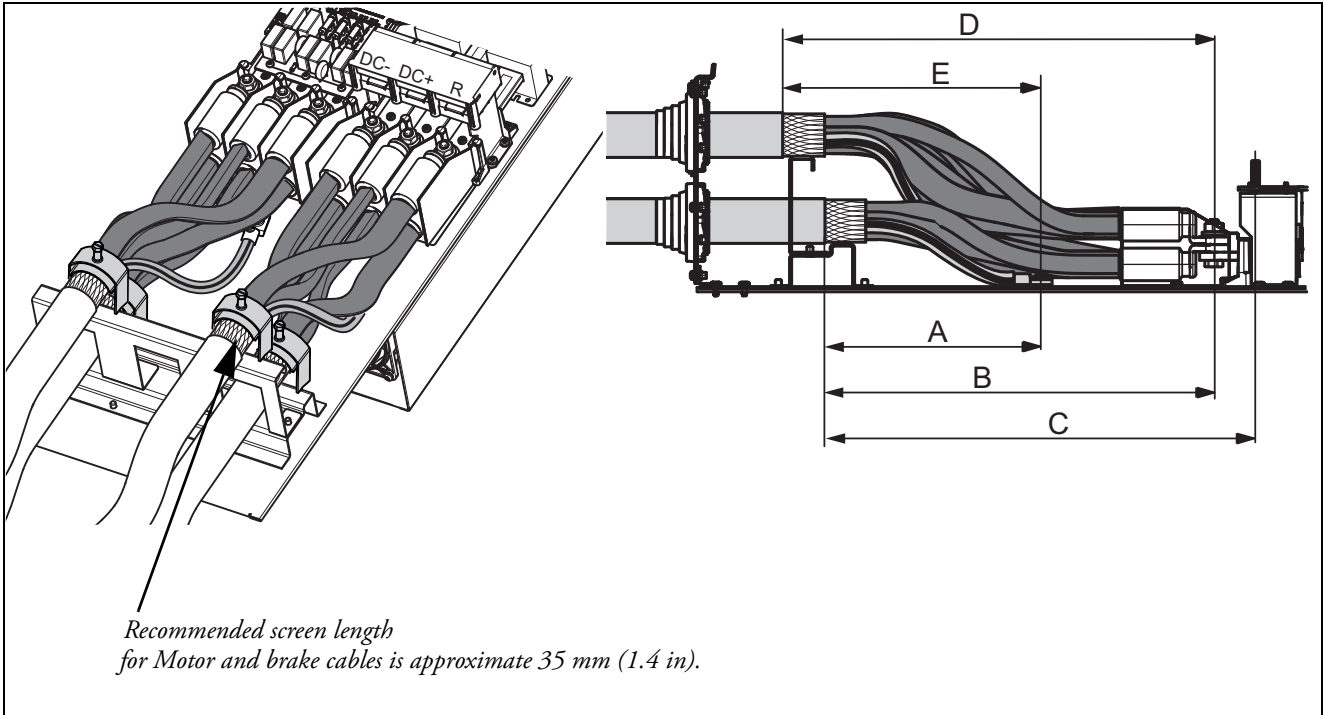

Fig. 61 Distances from the cable clamp to the connection bolts size FA.
4. Strip the cables according to table 15 and fig. 61.
3. Strip the cables according to table 17 and fig. 61.
Fig. 61 indicates the distance from the cable clamp to the connection bolts for decision of stripping lengths for the cables.